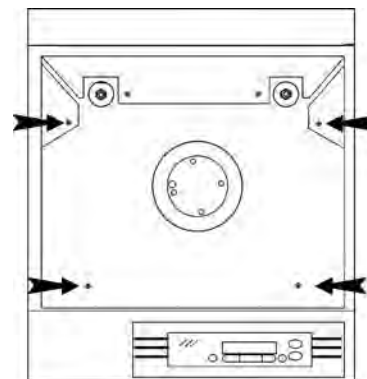

Figure 4-10. Screws Securing Base Plate
3. Remove the four screws securing the sheet metal cover plate located under the platform. They are identified with arrows in Figure 4-10. The plate will remain in place.